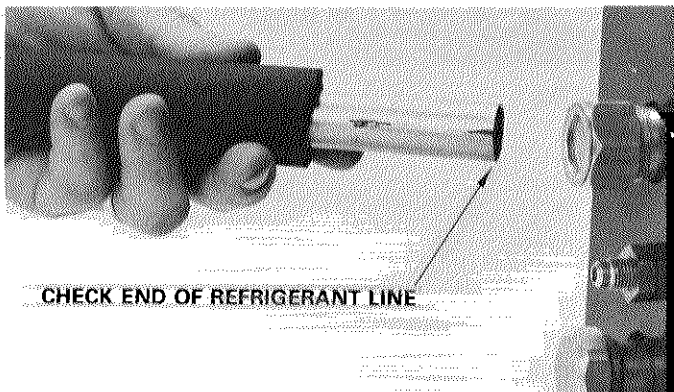

FIGURE 3
Step 1 - (Figure 3) Check that end of refrigerant line is: